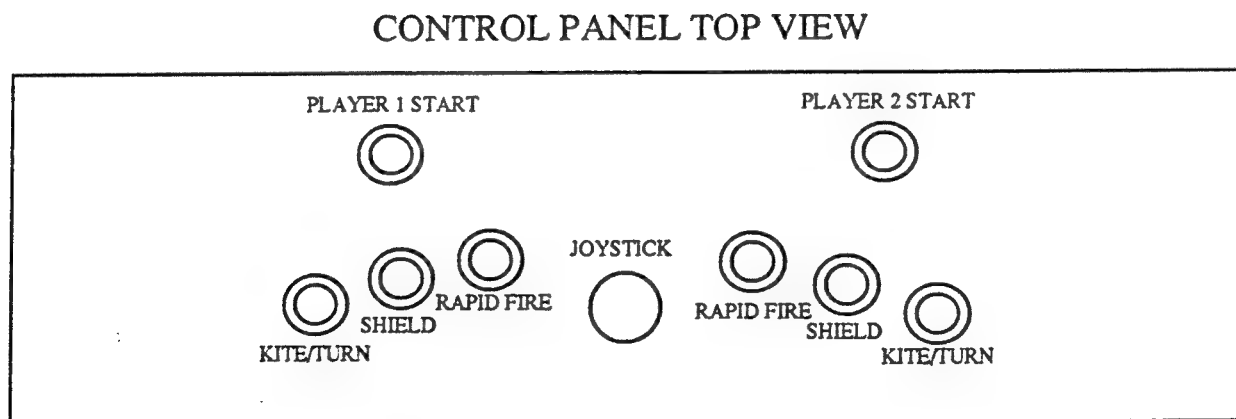

Figure 2
5. Define the location of the player push buttons and joystick(s) on the control panel. (see figure 2)
6. Cut holes in control panel to locate buttons and joystick(s). (see figure 2)
7. Install the "ONE PLAYER START" label and the "TWO PLAYER START" label on the control panel overlay if applicable. (see figure 2)
8. Install player control button labels on the control panel overlay. (see figure 2)
Note: This clear plex overlay can be used to protect unused holes in the control panel from player punctures. (see figure 2)
10. Install player pushbutton/s as required. (see figure 2)
11. Install player/s JOYSTICK/S as required. (see figure 2)